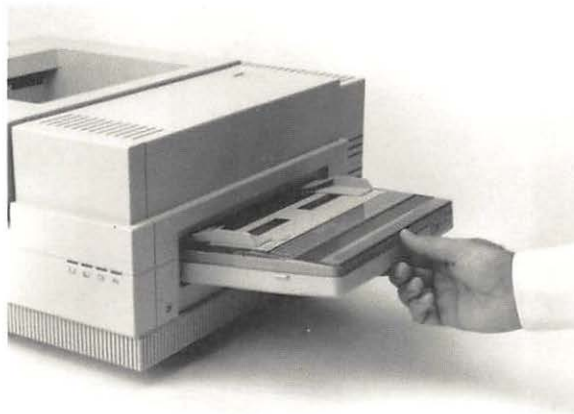

Figure 1-19
1. Slide the front of the cassette into the slot on the right side of the LaserWriter II. (See Figure 1-19.)